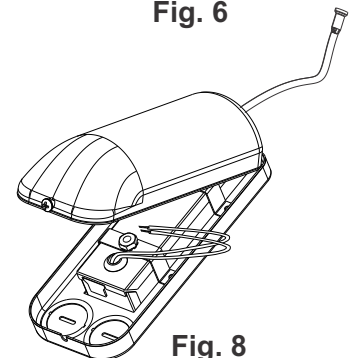

Fig. 8
Step 2. Remove wiring compartment cover. Remove the appropriate knock-out(s) to accommodate the type of electrical supply being used (**Fig. 8**). For flexible metal conduit or non-metallic sheathed cable, remove appropriate round knock-out(s) and connect conduit to junction box with proper connections (not supplied).
Step 3. Strip Supply wire 3/8" and insert each supply wire into appropriate connector. Connect black fixture wire to hot, white fixture wire to neutral, and green fixture wire to ground. (**Fig. 8**). For 0-10V: Connect violet (+) and pink (-) dimmer wires.